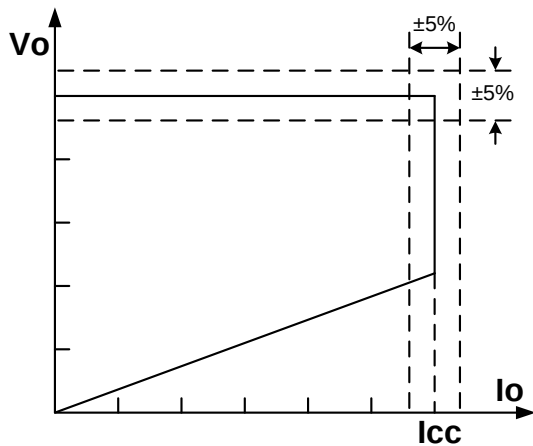

Figure 4. Typical CC/CV Curve
The PT2313E is a high performance AC/DC power controller for charger and adaptor applications. Due to the PSR control, the PT2313E can provide accurate constant voltage (CV) and constant current (CC) regulation without opto-coupler and TL431, as shown in Figure 4.